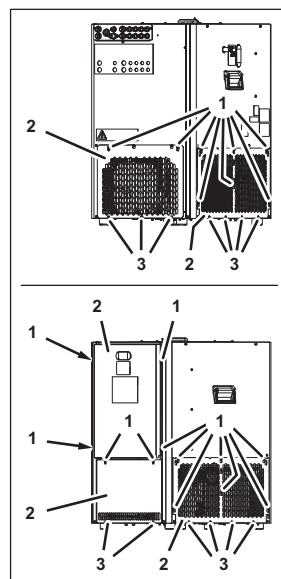

Figure 36
1. Loosen the fastening bolts (Figure 36/1) on the relevant service cover (Figure 36/2).
2. Remove the fastening bolts (Figure 36/3) from the relevant service cover (Figure 36/2).
3. Lift off the relevant service cover (Figure 36/2).
4. Position the relevant new service cover (Figure 36/2) on the unit.
5. Attach the relevant service cover (Figure 36/2) using the fastening bolts (Figure 36/1 and 3).